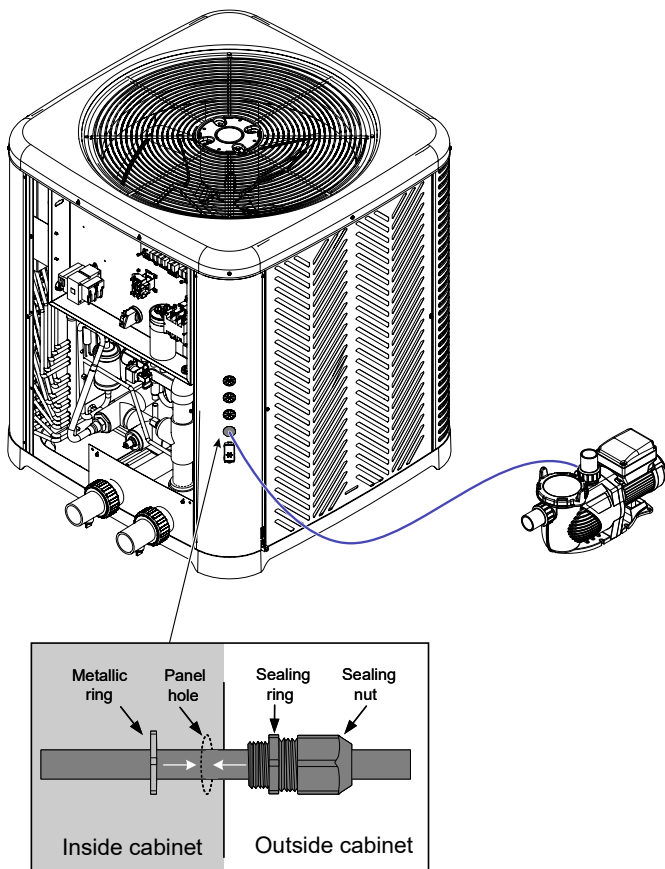

Figure 131. Wiring External Devices Using Liquid Tight Connectors
6. In the case you decide to remove the grommets to connect external devices to the heater, run wires using metallic conduit or outdoor-resistant cables. Then, connect the conduit or cables to the knockout using liquid tight connectors to prevent water or dust from entering the system. See **Figure 131**.